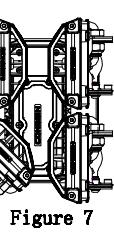

Figure 7
- (1) After the light is fixed on the tripod, hold the handle on the light, it can adjust the light irradiation angle 0-180° in one direction, as shown in Figure 6; The other direction can adjust the irradiation angle 0-359°, as shown in the figure 7! (In normal use, it is forbidden to illuminate each other on the luminous surface of the light board)